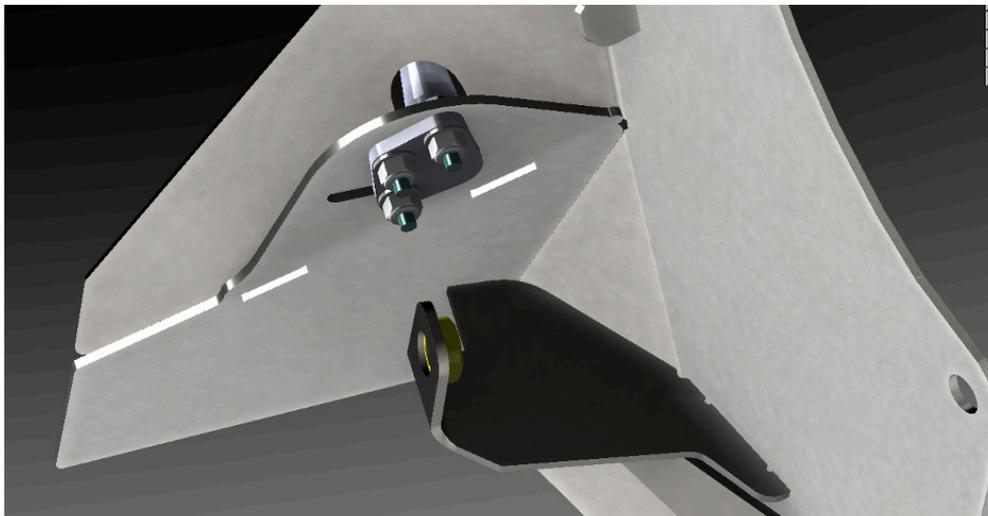

Figure 15.
15. Install the OE antenna mount onto the passenger side vicowl arm using the provided 3x MG bolts, washers and nuts. Figure 15.